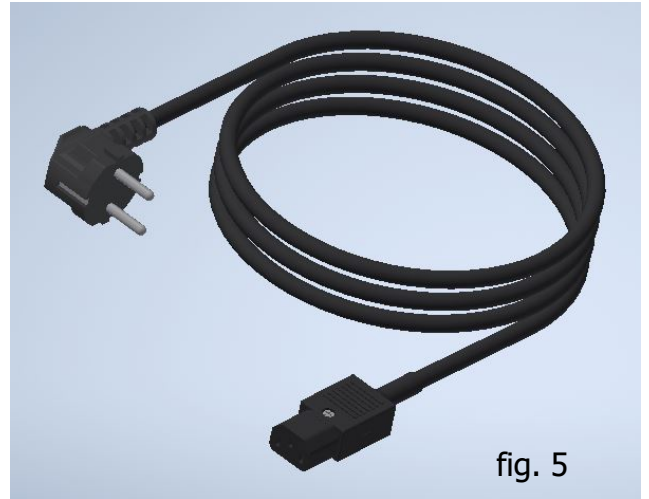

fig. 5
4. Connect the control box (fig.2 No. 7) to the mains voltage with the mains cable (P.07 fig.5).